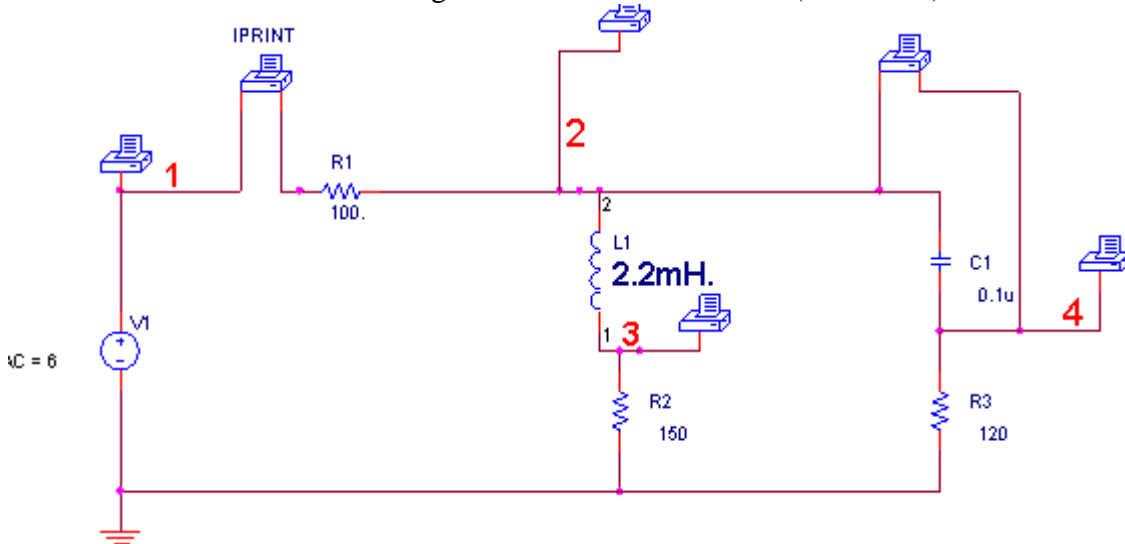

Figure 3 Circuit for Part 2 of PreLab
Solve the circuit of Figure 3 and determine the phasor voltages V_1 , V_{20} , V_{23} , V_{30} , V_{24} and V_{40} . Use the source voltage as the reference phasor. The ac voltage source is 6 V (peak). Use PSpice to verify your answers. This is just the previous circuit with another branch added. Note the node numbers. Ignore the terminal numbers (2 1 for L1) of the inductor.
- 1.1 Build the circuit of Figure 3 and measure the following phasor voltages at 15 kHz with the oscilloscope. Measure the phase relative to the input signal from the function generator. (If required, seek help in making the phase measurements with the scope). Compare the results of your measurement with prelab simulation and with the hand calculations. Enter your experimental readings in the following table.